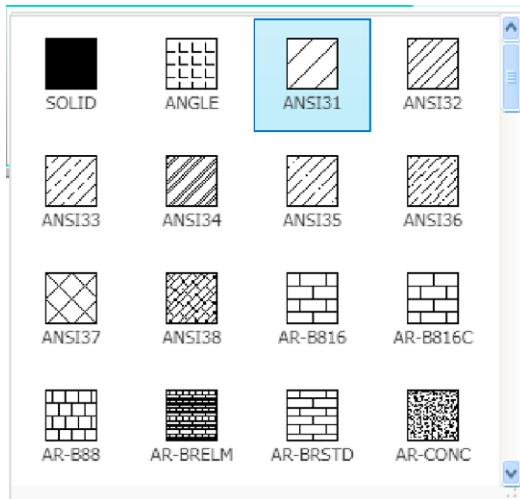

Fig. 8.6 Select **ANSI31** in the **Hatch Creation/Pattern** panel
2. *Left-click ANSI31 in the Hatch Creation/Pattern panel (Fig. 8.6).*